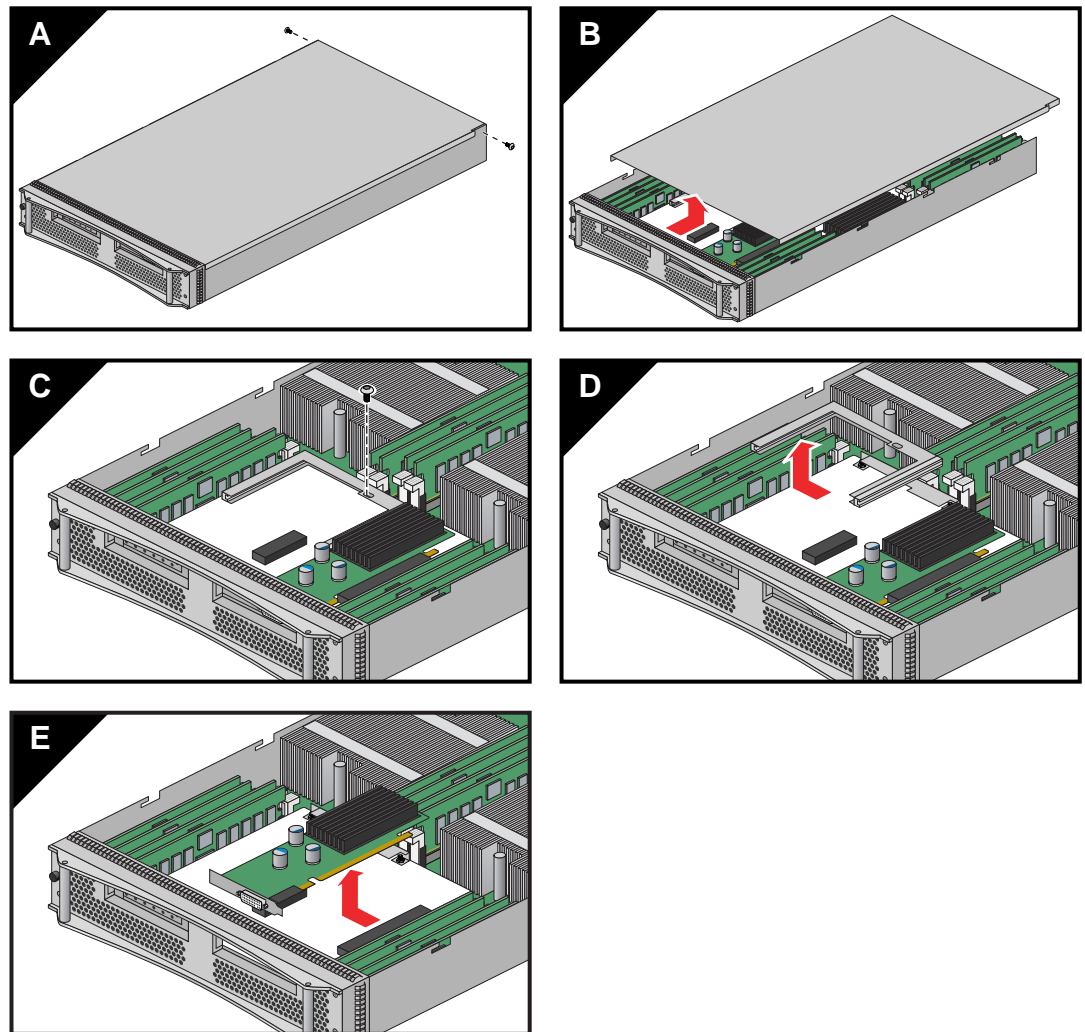

Figure 5-5 PCIe Card Access in Riser Blade
4. Unscrew and remove the two T10 torx-head screws located on either side of the rear part of the blade's sheetmetal housing, see Figure 5-5 on page 63. Set the screws aside for the re-installation process.